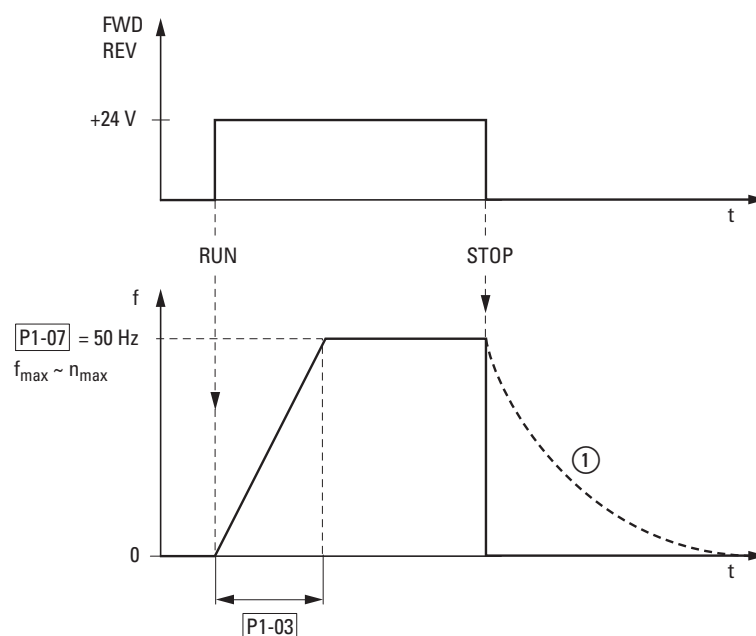

Figure 48: Start-Stop command with maximum setpoint value voltage
Figure 48 shows a good example of the process, if the release signal (FWD/REV) is switched on and the maximum setpoint voltage (+10 V) is applied. The speed of the motor follows the output frequency depending on the load and moment of inertia (slip), from zero to n_{max} .
If the release signal (FWD, REV) is switched off during operation, the inverter is blocked immediately (STOP). The motor comes to an uncontrolled stop (see ① in Figure 48). The acceleration time is set in parameter P1-03.